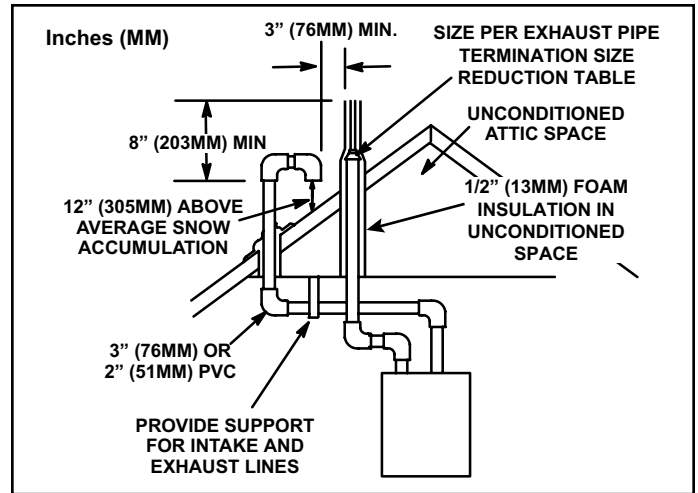

Figure 25. Direct Vent Roof Termination Kit
Intake and exhaust pipes may be routed either horizontally through and outside wall or vertically through the roof. In attic or closet installations, vertical termination through the roof is preferred. Figure 25 through Figure 32 show typical terminations.
3. On roof terminations, the intake piping should terminate straight down using two 90° elbows (see Figure 25).